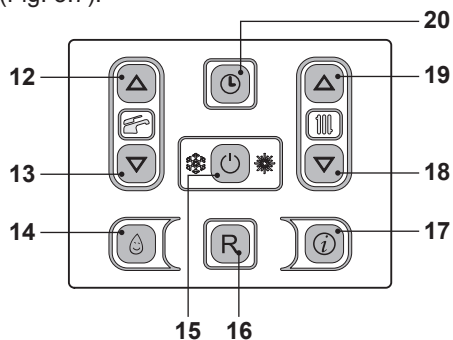
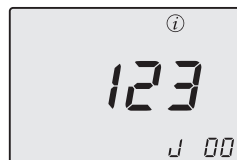

Fig. 3.6
Fig. 3.7
In order to access the INFO mode, press key 17 (Fig. 3.6) the index **J00** and the value of the parameter appear on the display (Fig. 3.7).
INFO mode, hold keys 15 and 19 (Fig. 3.6) pressed at the same time.
To reset normal boiler functioning, just press the 16 (Fig. 3.6) key.